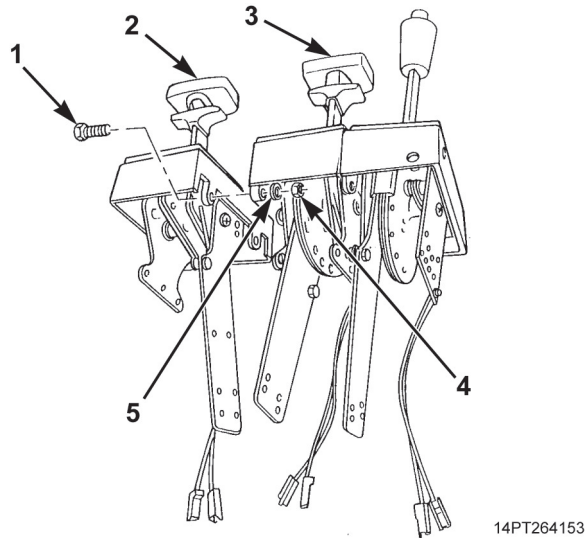

Figure 8. Hydraulic Control Lever Installation.
1. Install hydraulic control lever (Figure 8, Item 2) on transfer case selector lever (Figure 8, Item 3) with two bolts (Figure 8, Item 1), flatwashers (Figure 8, Item 5), and nuts (Figure 8, Item 4).